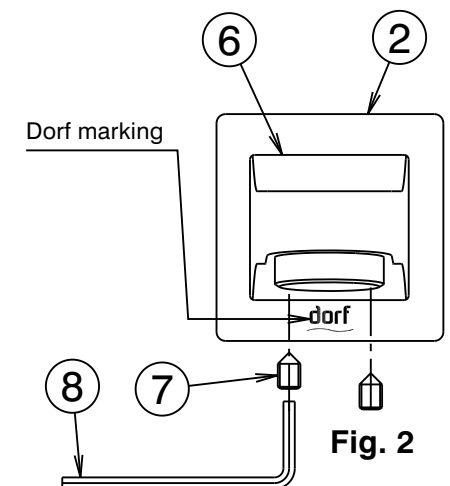

Fig. 2
- 1) Check that threaded nipple (1) is the correct length, as shown. Apply thread tape to the thread. Slide cover plate (2) onto threaded nipple (1). Screw adaptor (3) onto threaded nipple (1) using a 10mm allen key (5⁺) until cover plate (2) is held securely against wall/tile face and the 'Dorf' marking is at the bottom, as shown in Fig. 2. DO NOT OVERTIGHTEN. Apply suitable lubricant to 'O'Rings (4) on adaptor (3).
- 2) Fit the bath outlet (6) onto spigot of adaptor (3), then push it firmly against the wall cover plate (2) while tightening grub screws (7) using the 2.50mm allen key (8) provided. Take care that the top face of the bath outlet is horizontal before tightening screws (7).